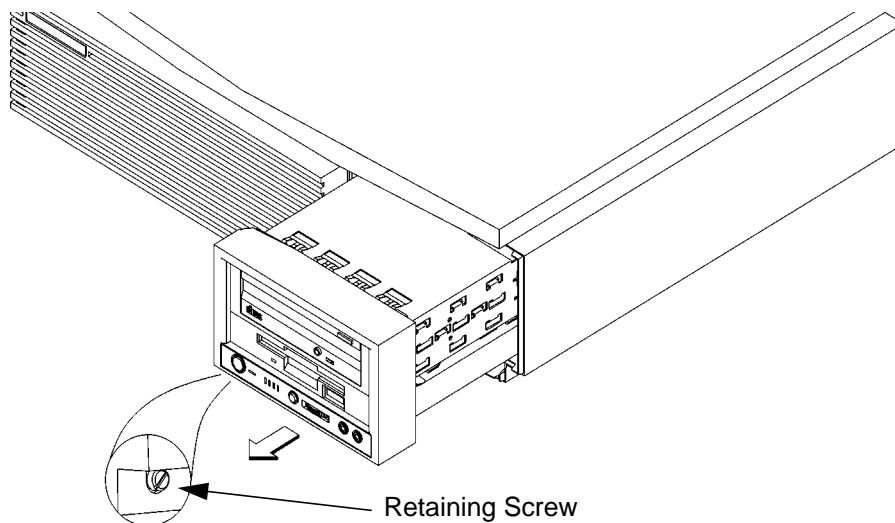

Figure 24 **Removing the Storage Tray**
- 1 Remove the storage tray retaining screw, as shown in Figure 24.
- 3 Place your fingertips in the groove on the bottom of the storage tray bezel. See Figure 24.